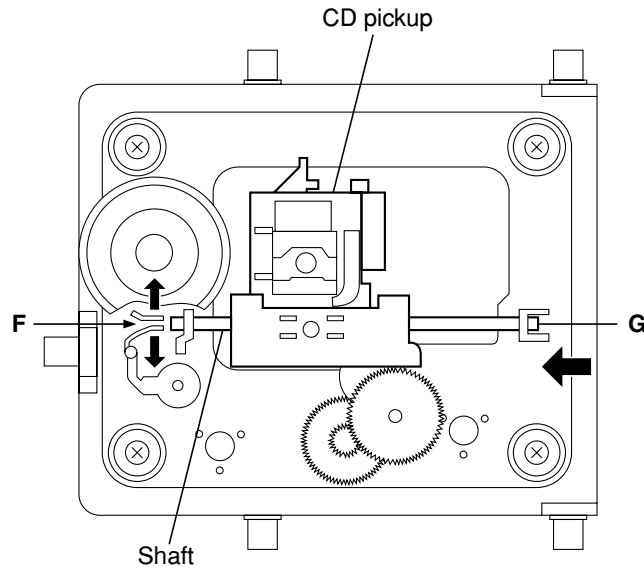

Fig.17
■ **Removing the CD pickup (See Fig.17)**